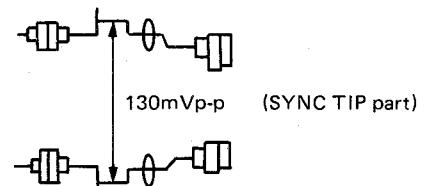

Figure 46.
- 6) Adjust R323 (REC. FM.) so that the FM recording current can reach the level shown in Fig. 46.